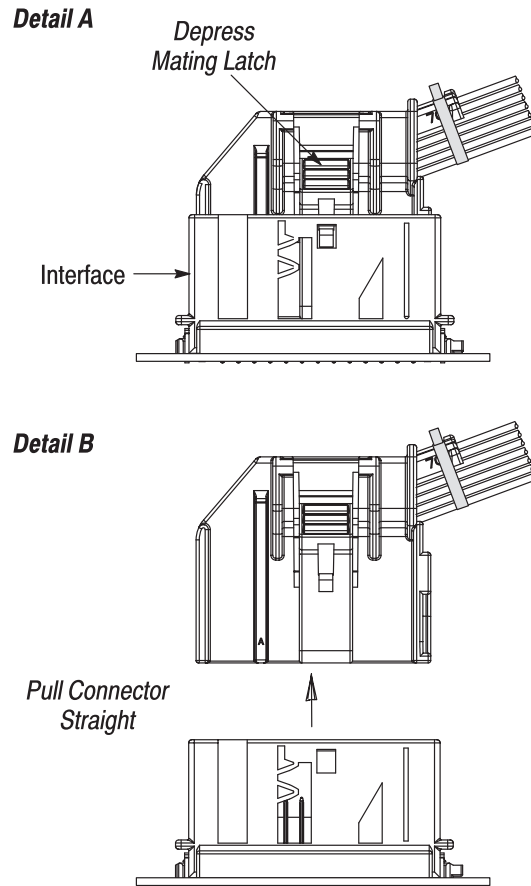

Figure 9
B. Hand Mate Connector (See Figure 9)
1. Depress the mating latch (visible in the mating slot of the interface). See Figure 9, Detail A.
2. Holding the mating latch in place, pull the connector straight out of the interface. See Figure 9, Detail B.